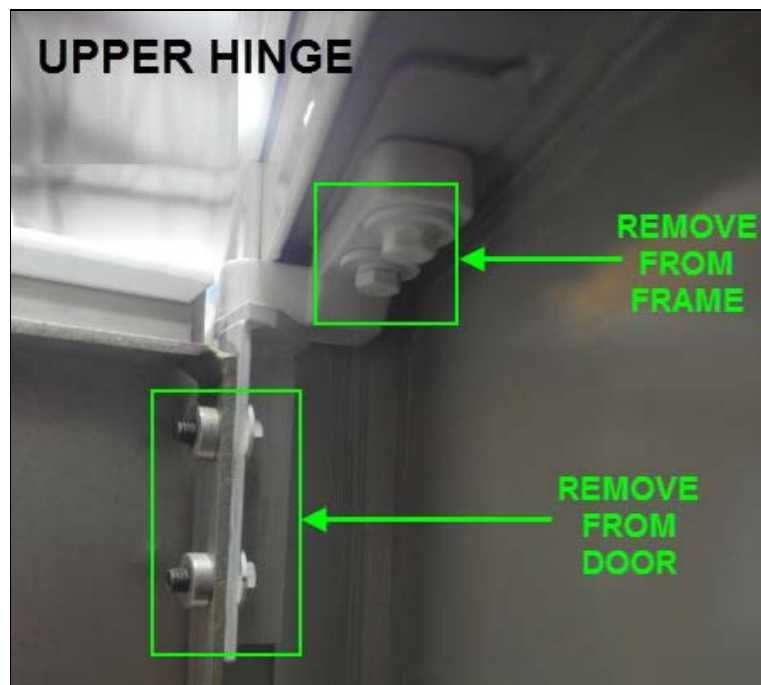

FIG.3 UPPER HINGE REMOVAL
3. Unscrew and remove both parts of the upper hinge (4X M6 bolts at frame and door). Discard all parts and hardware (Fig.3).